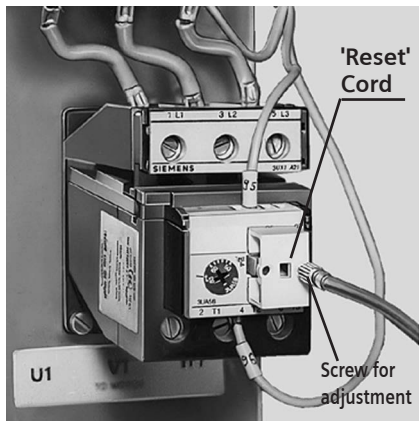

Fig. 4 Reset Cord connections
- In case of starters having resetting cord, attach the resetting device on the holes provided on the relay surface. (ref. fig. 4) Adjust the end of the reset cord using the adjustment screw (fig. 4) so that clearance between blue knob and reset cord metallic end is about 2mm.